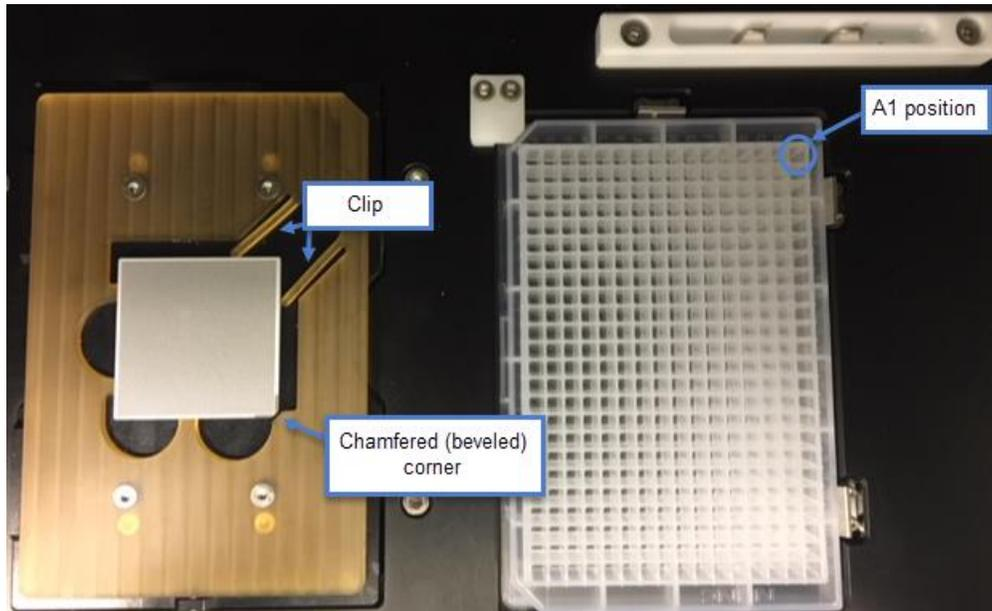

Figure 3. ICeLL8 cx Single-Cell System Stage Module. (Left) chip nest. (Right) source plate nest.
- All dispensing steps in the ICELL8 cx Single-Cell System Stage Module should be performed with a 384-Well Source Plate oriented with the A1 well positioned at the top-right corner of the 384-well plate nest (Figures 3 and 4, below). The source plate must be fully seated. This may be accomplished by pushing the source plate down after it has been placed on the plate nest.
- All dispensing steps in the ICELL8 cx Single-Cell System Stage Module should be performed with the chip oriented with the chamfered (beveled) corner positioned towards the bottom-right corner of the chip nest (Figure 3, next page).
2. Place the chip on the chip nest in the ICELL8 cx Single-Cell System. The chamfered (beveled) corner of the chip should align with the chamfered corner of the chip nest (refer to Figure 3, above, or the ICELL8 cx Single-Cell System User Manual, Section X.A).